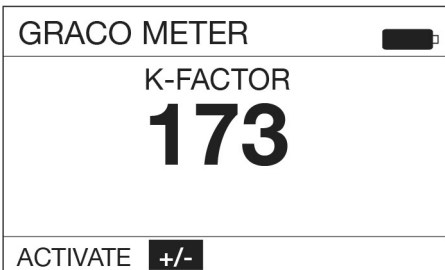

FIG. 19
- Use the RIGHT ARROW button on the keypad to highlight +/- and press the center ENTER button on the keypad to select the +/- option (FIG. 19).
NOTE: Selecting the GO BACK Function on this screen returns the display to the previous screen (shown in FIG. 19).